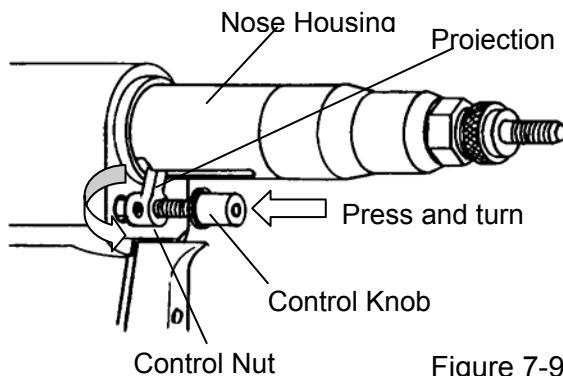

Figure 7-9
- Press the control knob and line up the projection on the Control Nut with the Nose Housing, and then turn the Control Knob counter clockwise to remove the assembly. Remove these parts as an assembly from the body of the tool (Figures 7-9 and 7-10).